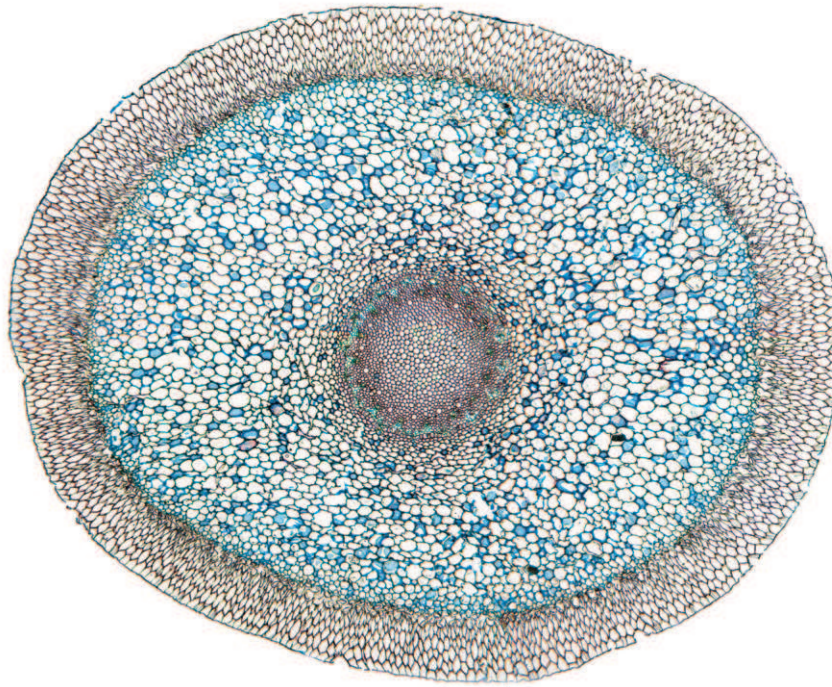
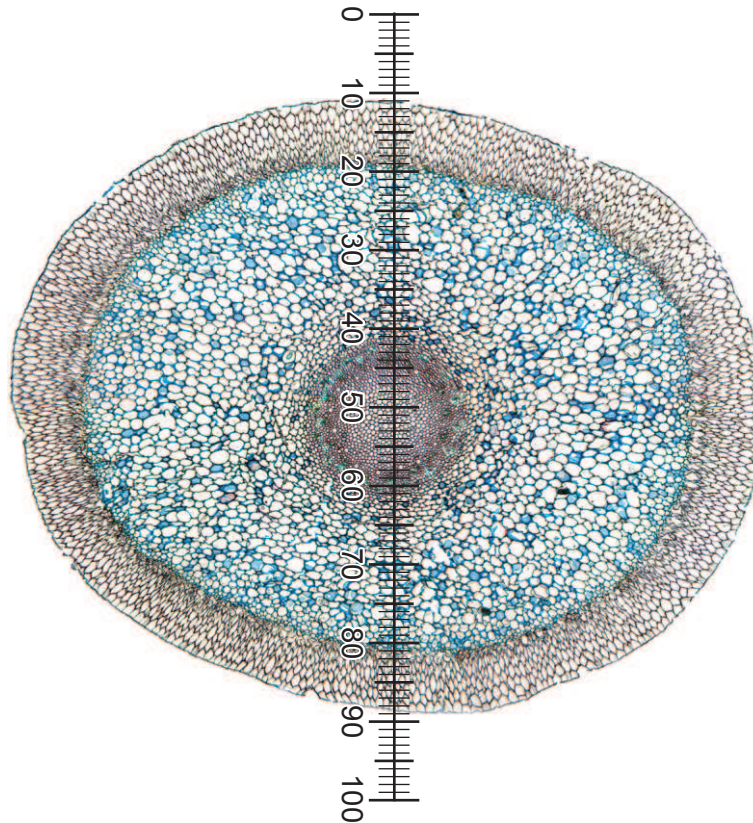

Fig. 2.2
Fig. 2.3
- (b)** Fig. 2.2 is a photomicrograph of a stained transverse section through a root of a different type of plant.
Identify the observable differences between the section on **K1** and the section in Fig. 2.2.
- (c) Fig. 2.3 is a photomicrograph of the same root section as in Fig. 2.2, viewed using a microscope with an eyepiece graticule placed across the section.
An eyepiece graticule is shown on Fig. 2.3.
Use the calibration of the eyepiece graticule scale to calculate the actual diameter of the section in Fig. 2.3.